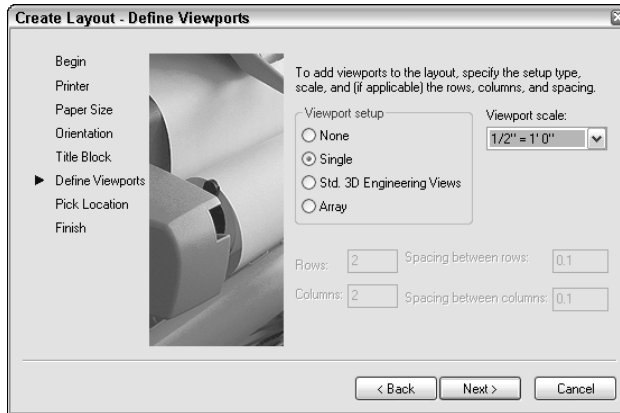

Figure 17-5: The Define Viewports screen of the Layout Wizard
7. On the Define Viewports screen, shown in Figure 17-5, you choose from four viewport configuration options: